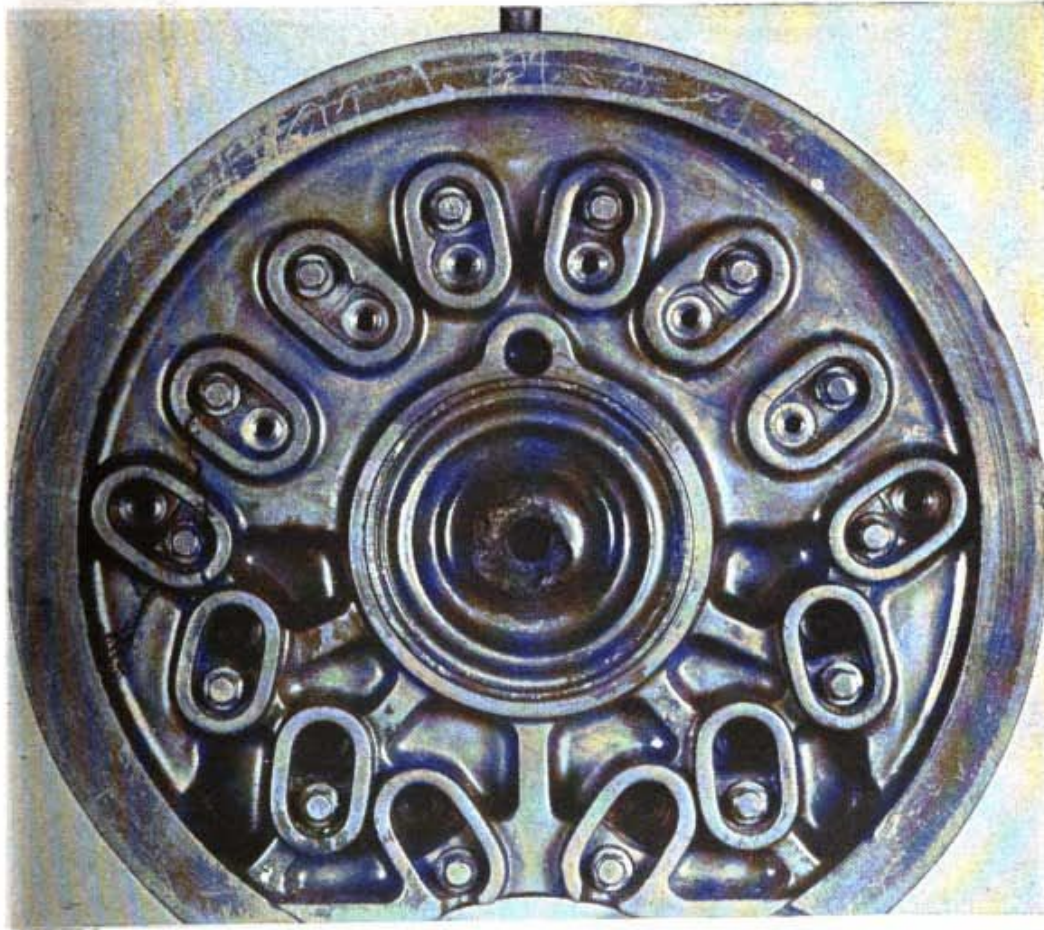

Figure 64. Cracked distributor.
(4) DISTRIBUTOR. Inspect the distributor for a cracked head (fig. 64) or rotor, sticking or broken brushes, signs of arcing, tightness of the mounting screws, and cleanliness. If one or more of the conditions mentioned are present, replace the head, brush, or rotor, or clean and tighten the parts as required.
(5) IGNITION CABLE. Examine the ignition cable for condition of connections and terminals, exposed ends, chafing due to vibration, and for deterioration due to heat.
(6) INDUCTION VIBRATOR (OR BOOSTER COIL PROVIDED ON OLDER PLANES). See that the induction vibrator (or ignition booster coil if plane is thus equipped) is securely mounted.
(7) IGNITION SWITCH. Check the ignition switches for security of mounting, condition, and proper connection of all electrical leads and terminals.